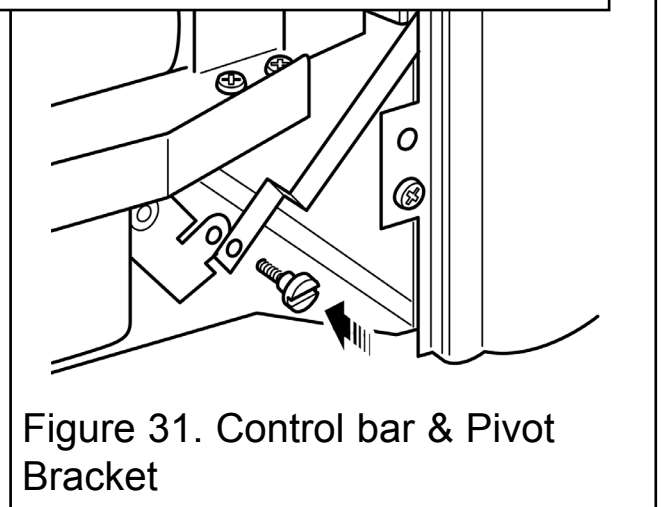

Figure 31. Control bar & Pivot Bracket
12.3 Align the hole near the bottom of the control linking bar with that in the control pivot bracket. Join them with the knurled shouldered screw (See figure 31). Make sure that the isolating valve in the 'T' connector is closed. Slide the control button fully from top to bottom and back to make sure that the slide and pivot mechanisms move smoothly. Note that some resistance should be felt when the slide button reaches the "burner fully on" position.